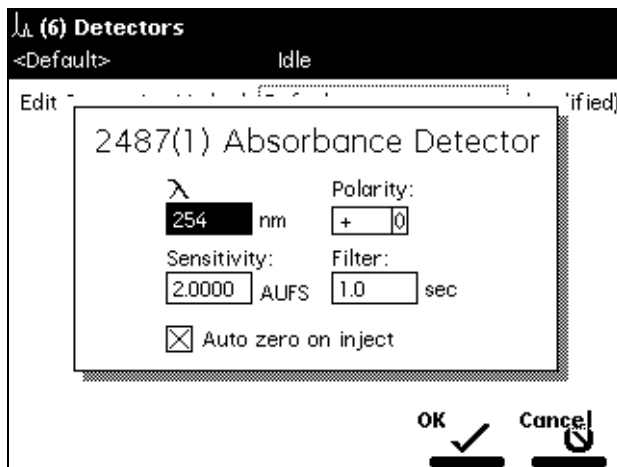
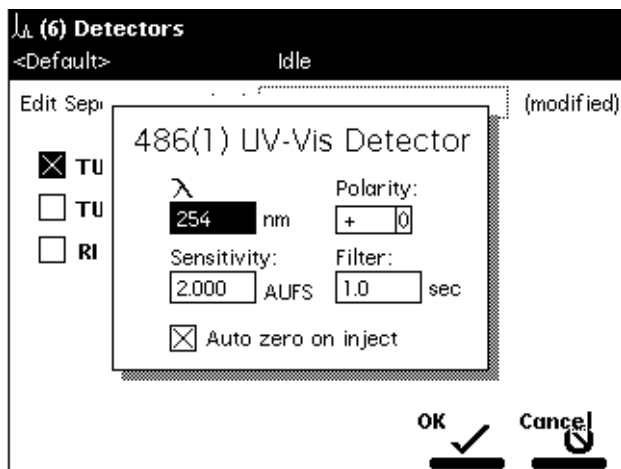

Figure 6-12 2487(1) UV/Vis Detector Screen
Figure 6-13 486(1) UV/Vis Detector Screen
- Press the **Abs (1)** or **Abs (2)** screen key to display the appropriate absorbance detector screen. Figure 6-12 shows the screen for a Waters 2487 Detector; Figure 6-13 shows the screen for a Waters 486 Detector.